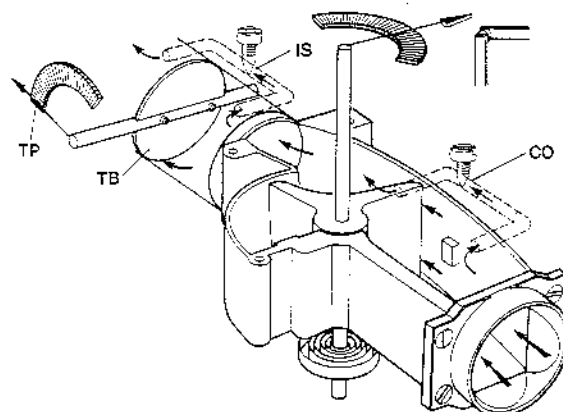

Fig.10
During cranking and when the engine is idling, sufficient air is drawn into the engine to open the flap unit approximately 5° as seen in fig.10. This movement allows the contacts (FPC) to close and switch the fuel pump into operation.
It can also be seen in fig.10 that whilst the bulk of air enters the engine via the measuring flap, a by-pass port and adjustment screw (CO) is also provided. This adjustment screw enables fine adjustment of the actual air flow and thereby controls the mixture strength (CO) at idle speeds.